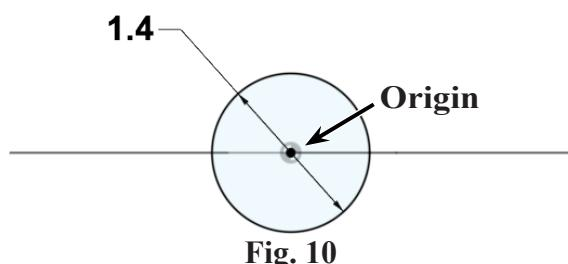

Fig. 10
Step 2. Click **Center Diameter Circle**  (C) in the Create area of toolbar.
Step 3. Sketch **circle at Origin** , **Fig. 10**.
Step 4. Click **Dimension**  (D) on the toolbar.
Step 5. Dimension circle **diameter 1.4**, **Fig. 10**.